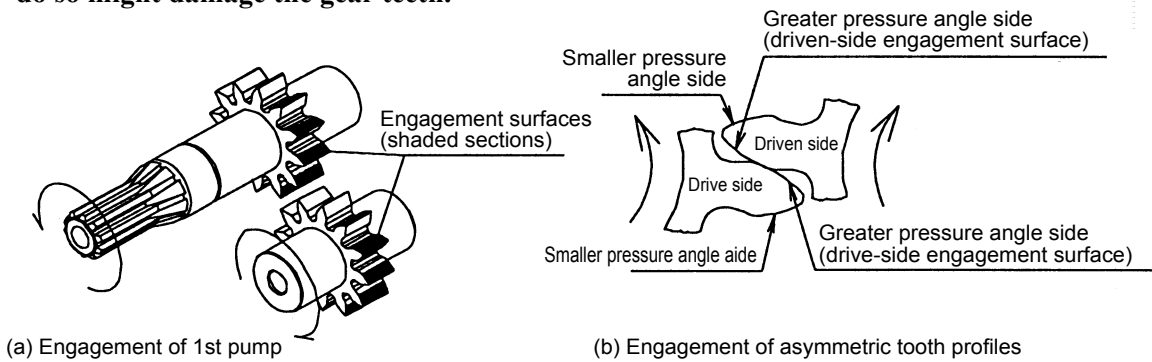

Fig. 3.395
- ⑦ Install the driven gear (1) in the pump body half 1 (2), as shown in Fig. 3.395.